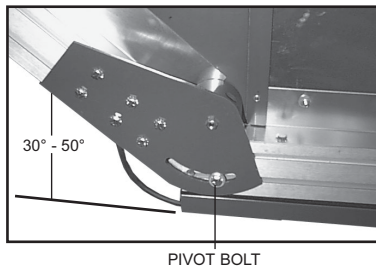

Figure 1
- 1) Loosen the pivot bolts (**see Figure 1**) on both sides of the conveyor.